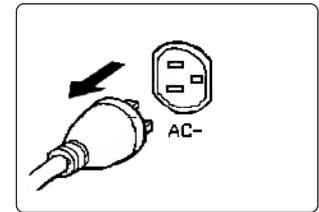

fig.12
- 6.4.3. Disconnect any electrical devices fig.12.